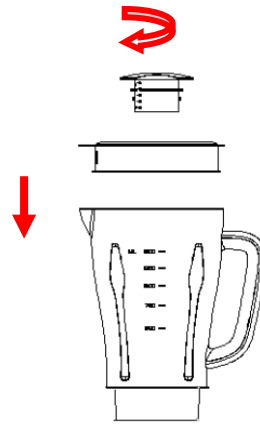

Fig.4
- 2) Re-position the jar assembly with its opening upwards, and then put the lid onto the jar assembly. Place the measure cup exactly into the lid by aiming at a fixed position in the middle of the lid and turning the cup clockwise up to tightly. (See Fig.4)